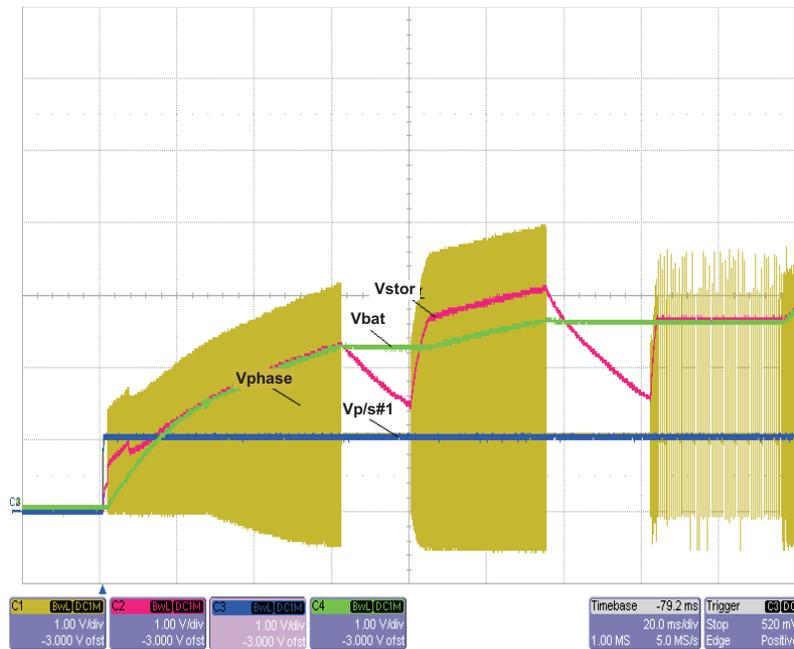

Figure 2. Startup with no Battery and 10k Load
1. Connect a 20Ω resistor to J1-1, 10k resistor between J6-1 and J6-3 and place shunt on JP1-DIV. Connect meters and scope probes to monitor CH1→CH4: $V_{PHASE}(TP16)$, V_{STOR} , $V_{P/S \#1}$, V_{BAT} . Set scope to 1V per division for each channel and 20ms/div, single sequence trigger on $V_{P/S\#1}$, see Figure 2.